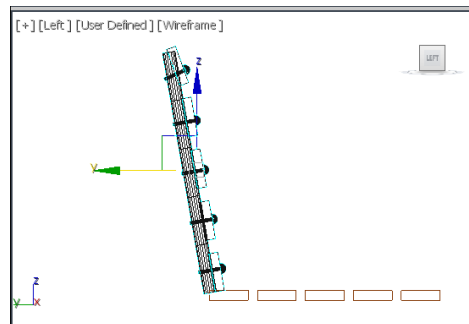

Figure 2-86 Alignment of back support in the Left viewport
3. Choose the **Select and Move** tool and align *back support* with *horizontal seat support*, as shown in Figure 2-86.